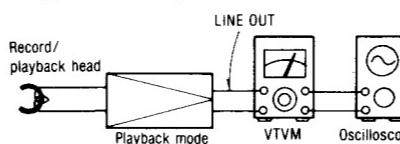

Fig. 2
1. Make connections as shown in fig. 2.
1. Test equipment connection is shown in fig. 2.